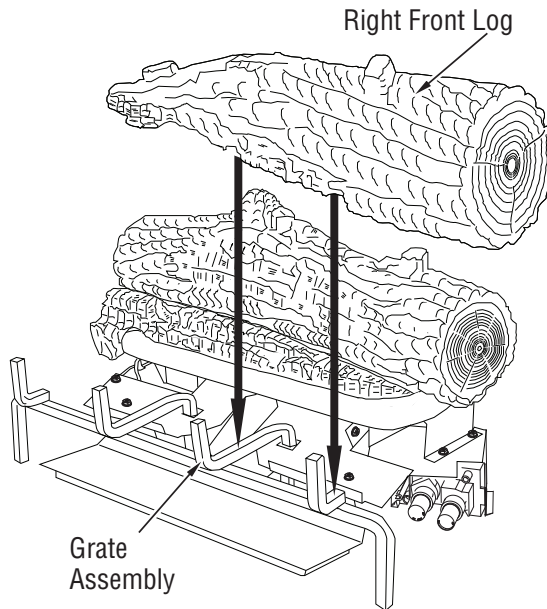

Figure 51 - Installing Right Front Log
3. Place the right front log onto the base and grate assembly as shown in **Figure 51**. The log has notches in the bottom for the grate.